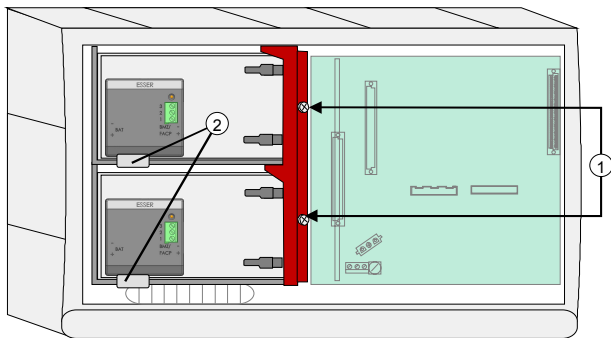

Fig. 25: Mounting in the compact housing FACP IQ8Control C
- Fix the mechanical battery fastener by inserting the two screws ①.
- Install the battery monitor module ② according to Fig. 25.